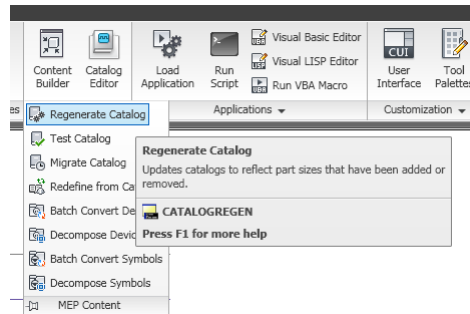

Figure 6.14
12. On the Manage Tab, expand the MEP Content panel and click the Regenerate Catalog button (see Figure 6.14).